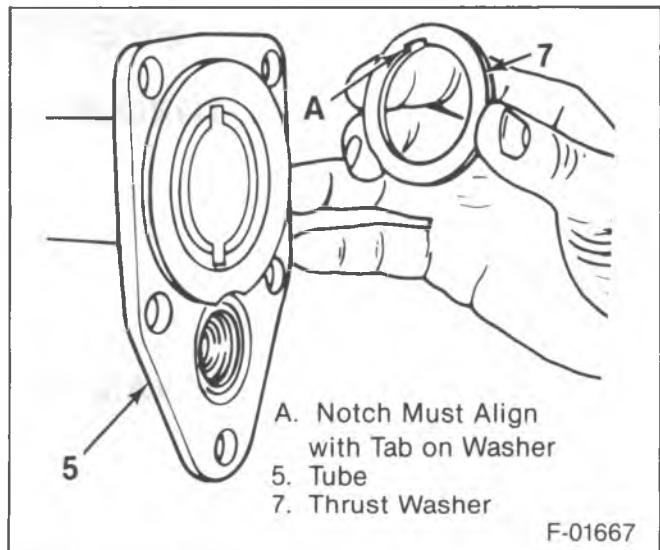

Figure 34—Installing the Thrust Washer
14. Thrust washer (20). Use grease to hold it in place.
15. Spring (16) and shift shaft and fork (17).
16. Thrust washer (7). Use grease to hold it in place. Align the notch and tab (figure 34).
17. Shaft (1) to the tube (5).
18. Carrier connector (9) with retainer (8). Tap into place.
19. Tube assembly (5) to the carrier.
20. Two upper bolts (6). Leave finger tight.
21. Shift cable housing (11) and remaining bolts (6).